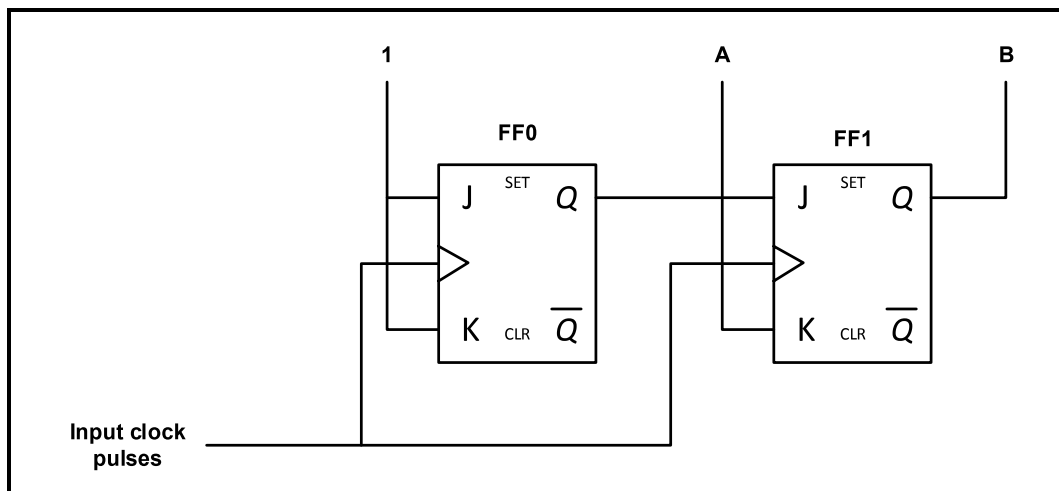

FIGURE 5.5
- 5.5 Refer to FIGURE 5.5 of a binary counter below and complete the timing diagrams of this counter on the ANSWER SHEET for QUESTION 5.5